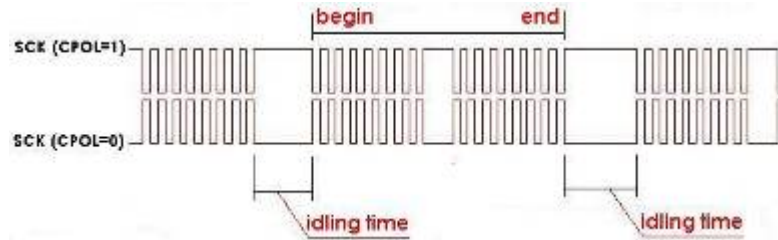

Fig 4-89 – Idling Time
(4) Type the Idling Time of the SCK signal on the tested SPI circuit. The Idling Time is defined as shown in Fig 4-89.